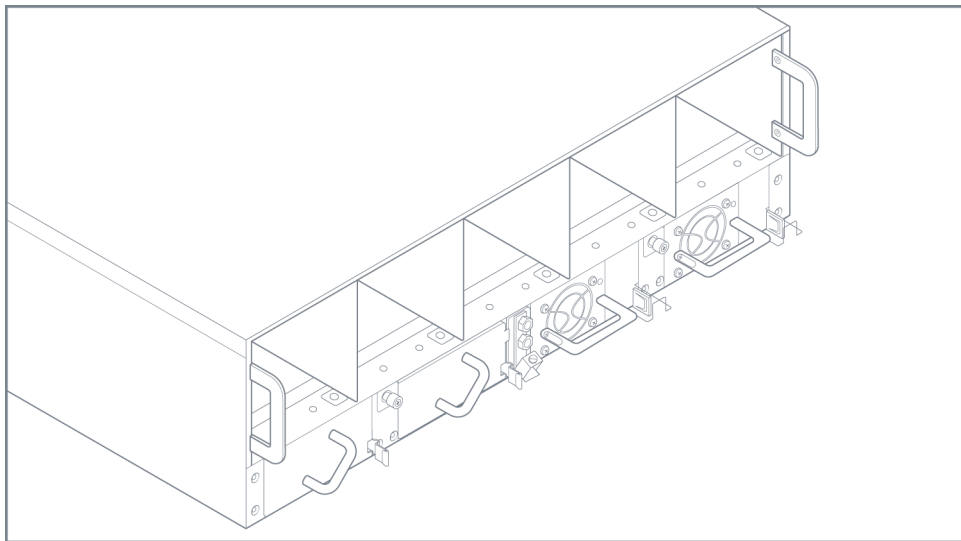

Figure 4-13: Fan Tray Inserted
3. Slide the fan tray in until it is flush with the chassis rear and will not slide in any further as shown in Figure 4-13 on page 82.